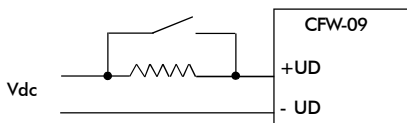

Figure 2 – External pre-charge circuit (sizes 1 to 5)
- For sizes 1 to 5, it is necessary to design the pre-charge circuit correctly. The contactor is commanded via CC9 card (see figure 2). For further information contact WEG.